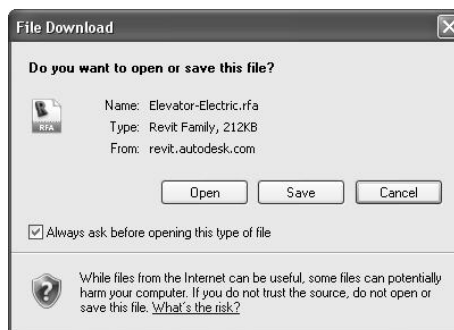

Figure 3-4.5a Web browser prompt
- Select **Save** (Figure 3-4.5a).